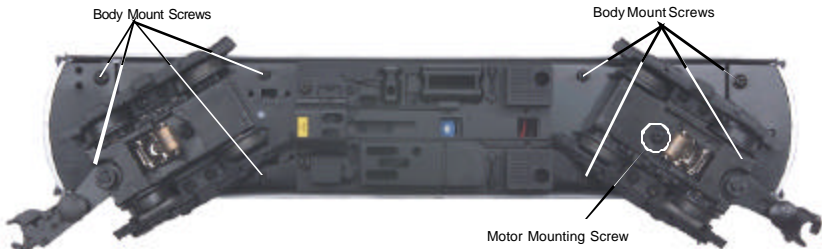

Figure 3
1. Remove the eight Phillips screws from the chassis, as seen in Figure 3, then lift the body away from the chassis.
2. Remove the truck blocks from the chassis by unscrewing the black Phillips motor mount screw on the bottom of each truck block, as shown in Figure 3.